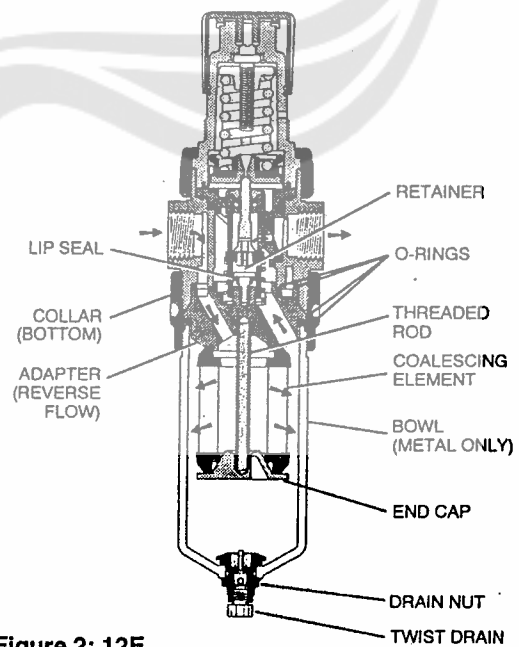

Figure 2: 12E
**B. 12E Units -** (Refer to Figure 2.)